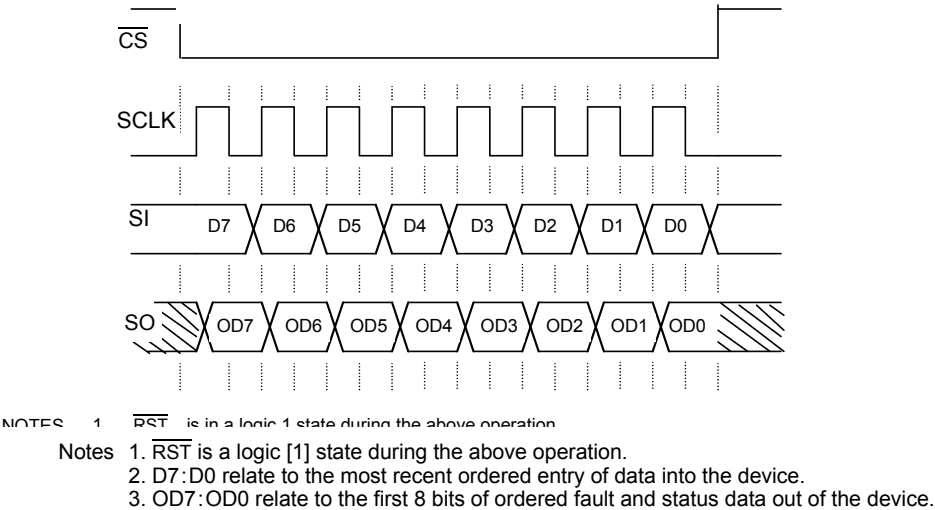
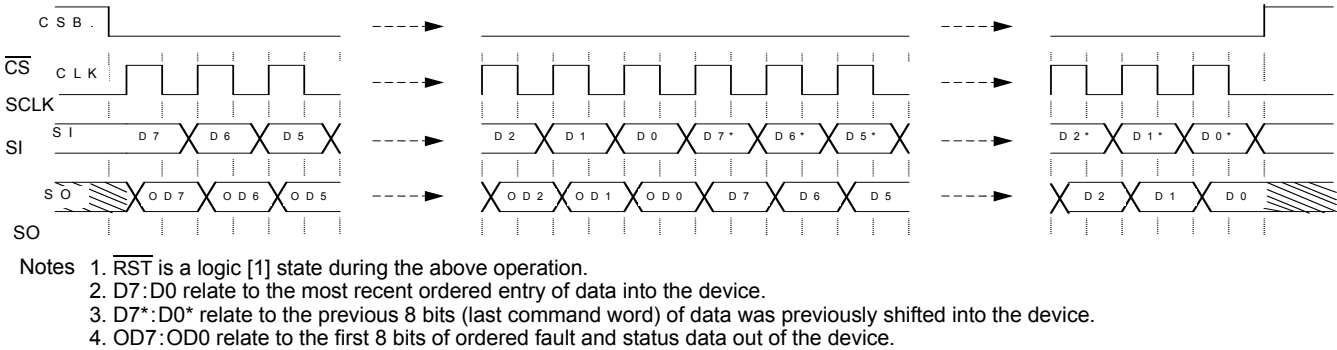

Figure 9. Single 8-Bit Word SPI Communication
Figure 10. Multiple 8-Bit Word SPI Communication
Serial clocks (SCLK) the internal shift registers of the 33984 device. The serial input (SI) pin accepts data into the input shift register on the falling edge of the SCLK signal while the serial output (SO) pin shifts data information out of the SO line driver on the rising edge of the SCLK signal. It is important the SCLK pin be in a logic low state whenever $\overline{CS}$ makes any transition. For this reason, it is recommended the SCLK pin be in a logic [0] state whenever the device is not accessed ($\overline{CS}$ logic [1] state). SCLK has an active internal pull-down, I_{DWN} . When $\overline{CS}$ is logic [1], signals at the SCLK and SI pins are ignored and SO is tri-stated (high-impedance). See Figure 9 and Figure 10.